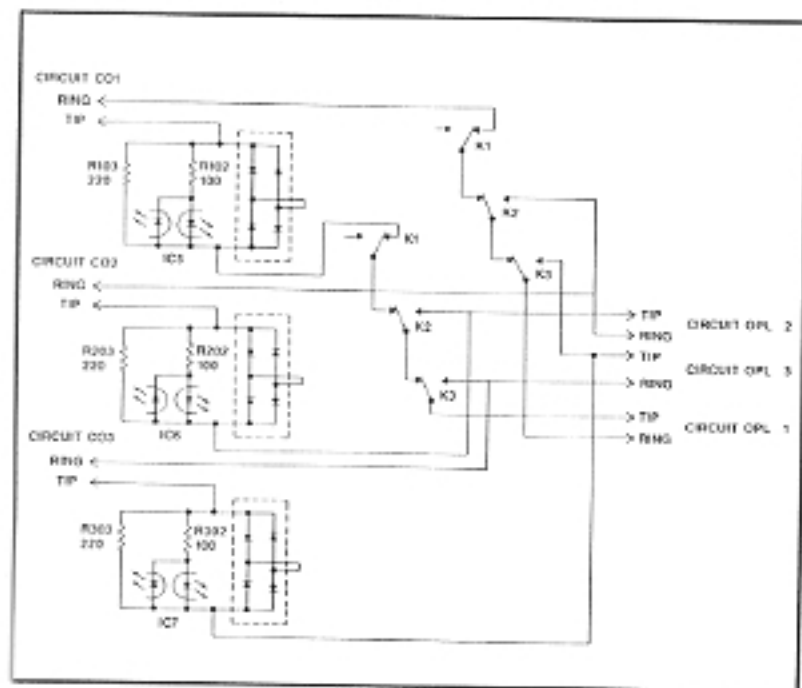

FIGURE 28—MPLU RELAY CIRCUITS
07.53 If an MPLU (MF-4 or DP-4) is used, a single answering machine connected to OPL circuit #1 will also serve OPL circuit #2 and/or #3. An MPLU (MF-4 or DP-4) is equipped with a chain of relay contacts (Figure 28) that—operating under software control via Program 0#9—can switch incoming calls on CO circuits #2 and/or #3 to the OPL